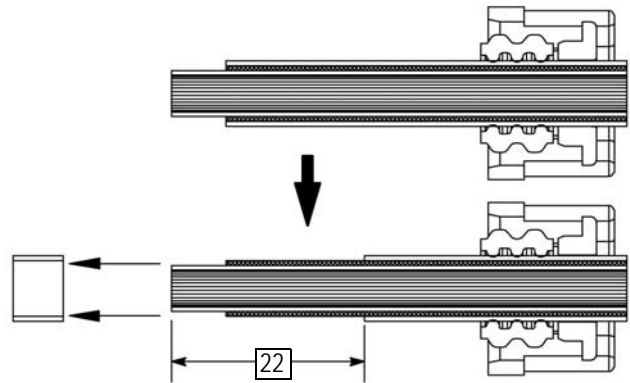

Figure 4
3. Strip the outer cable jacket 22 mm from the end, exposing the braided cable shield as shown in Figure 4.